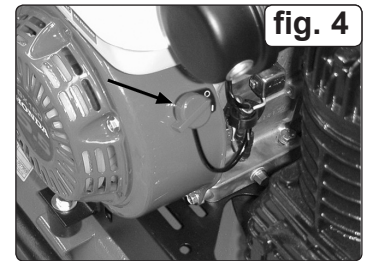

fig. 4
4.2.1. To stop the compressor turn the engine ignition switch (fig.4) to Off (O). See the engine manufacturer's handbook for the complete engine shutdown procedure.